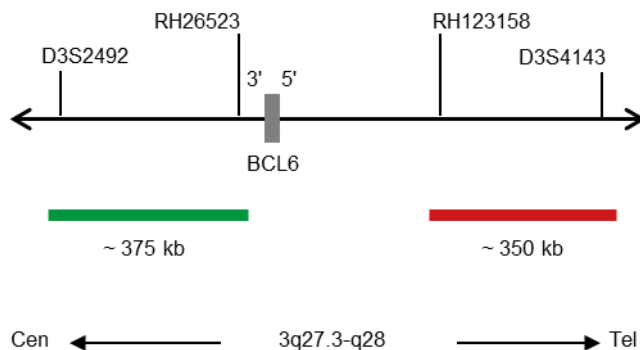

Fig. 1: SPEC BCL6 probe map (not to scale)
- Digoxigenin-labeled polynucleotides (~0.50 ng/μl), which target sequences mapping in 3q27.3* (chr3:187,028,236-187,403,834) proximal to the BCL6 breakpoint region (see Fig. 1).
- Dinitrophenyl-labeled polynucleotides (~0.75 ng/μl), which target sequences mapping in 3q27.3-q28* (chr3:187,744,962-188,097,195) distal to the BCL6 breakpoint region (see Fig. 1).